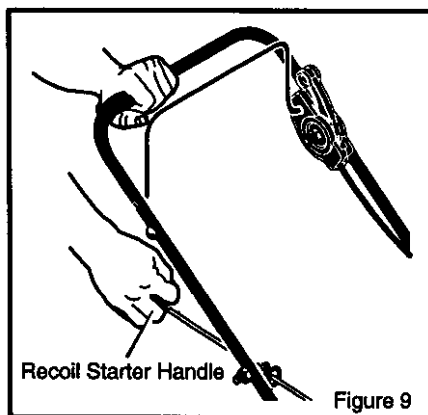

Figure 9
4. Firmly hold the recoil starter handle with your right hand. See Figure 9.